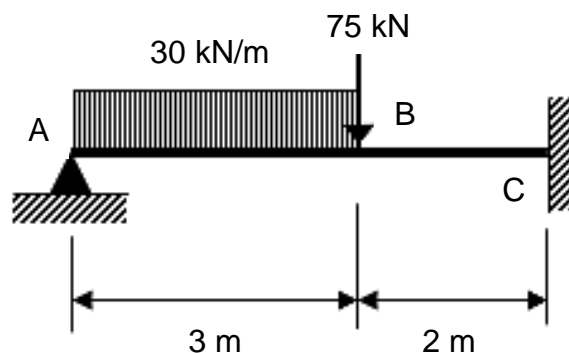

Figure 2 / Rajah 2
2. (a). A concrete beam as shown in **Figure 2** supports a uniformly distributed load of 30 kN/m along span AB and a concentrated load of 75 kN at B. The beam is supported by a pin at A and is fixed at C. Determine the reactions at supports A and C of the beam by using the method of least work. The elastic modulus of the concrete beam and second moment of area of the beam section are 30 GN/m² and 45000 cm⁴, respectively. Ignore the self-weight of the beam.